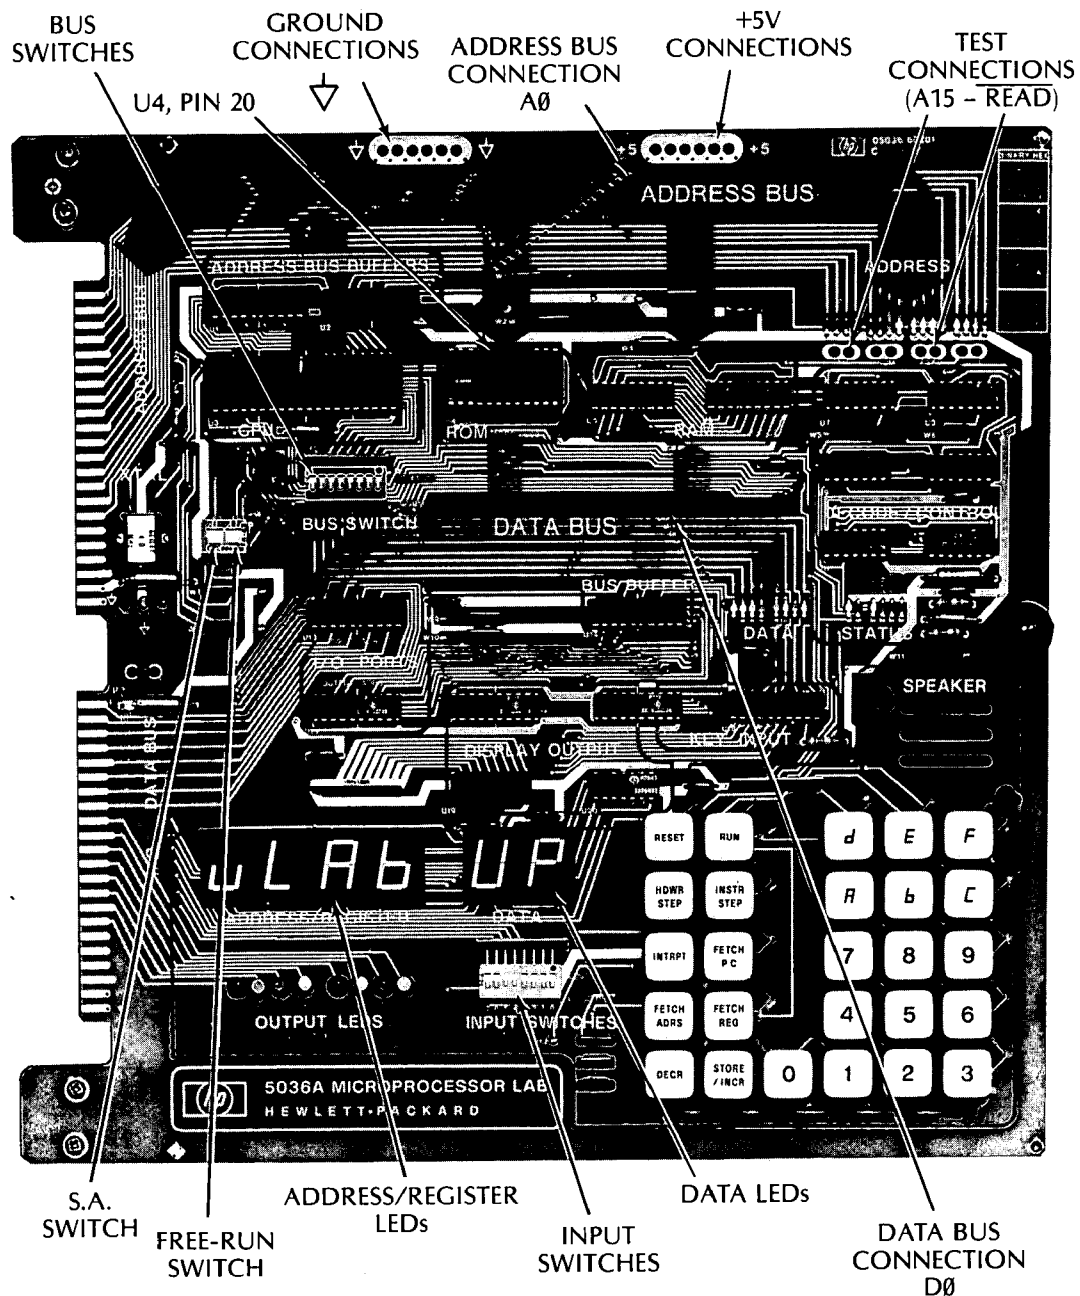

Figure 4-10. 5036A Test Switches and Connection Points
- c. Set the 5036A LINE OFF-ON switch to ON. Verify the ADDRESS/REGISTER and DATA LEDs read “8888 88” momentarily, then “UL 88 UP”. Refer to *Figure 4-10*.
- g. Connect the Data Probe to a +5 volt test connection (refer to *Figure 4-10*). Verify the 5005B displays the signature "7870" with the GATE LED flashing and all other LED indications the same as in step c.
- h. Connect the Data Probe to DATA BUS test point D0 (refer to *Figure 4-10*). Verify that the 5005B display reads "866U" with the GATE LED flashing and all other LED indications the same as in step c.